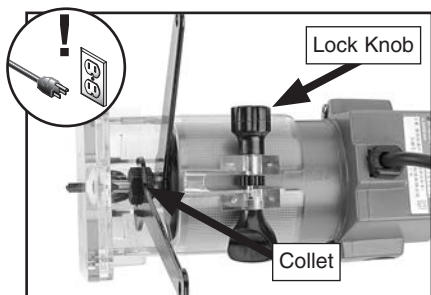

Figure 4. Loosening the collet.
3. Place the collet wrenches as shown in **Figure 4**, loosen the collet, and remove the router bit.